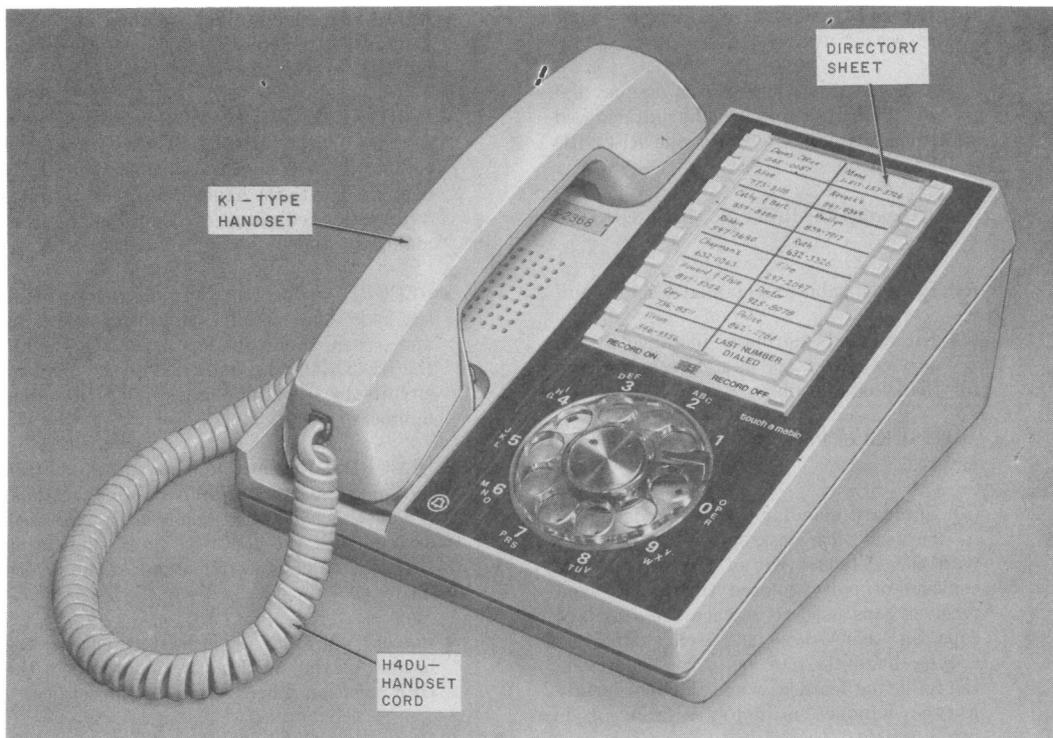

Fig. 1—960A01M Telephone Set
1.01 This section contains information on the 960A01M telephone set. This set is shipped from the factory as a desk set (Fig. 1) and can easily be converted to a wall set with no additional parts required.
- Revise Fig. 1, 6, 15, 16, 17, 18, and 20